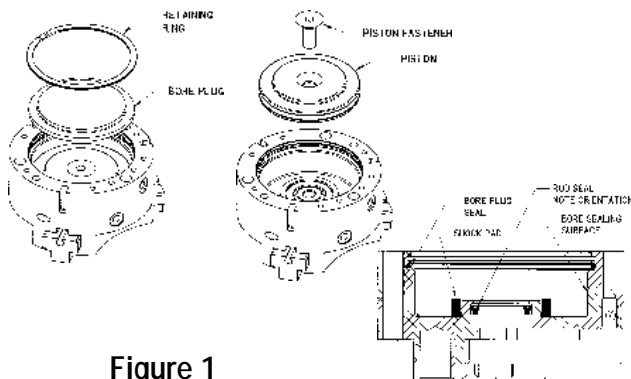

Figure 1
2. On the bottom of the gripper, remove bore plug retaining ring (Figure 1).
9. The rod seal is located in the center bore of the body and can be removed from the bottom of the gripper. Note orientation of the rod seal (Figure 1).
4. Pre-lubricate rod seal cavity and install the rod seal. Orientation of the rod seal is critical (Figure 1).
11. Lubricate the bore plug seal groove and install the seal in the groove closest to the gripper bore (Figure 1).